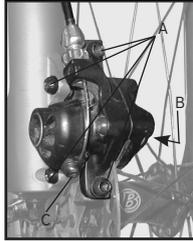

Figure 31- Disc brake
1. Turn the fixed pad adjuster (Figure 31).